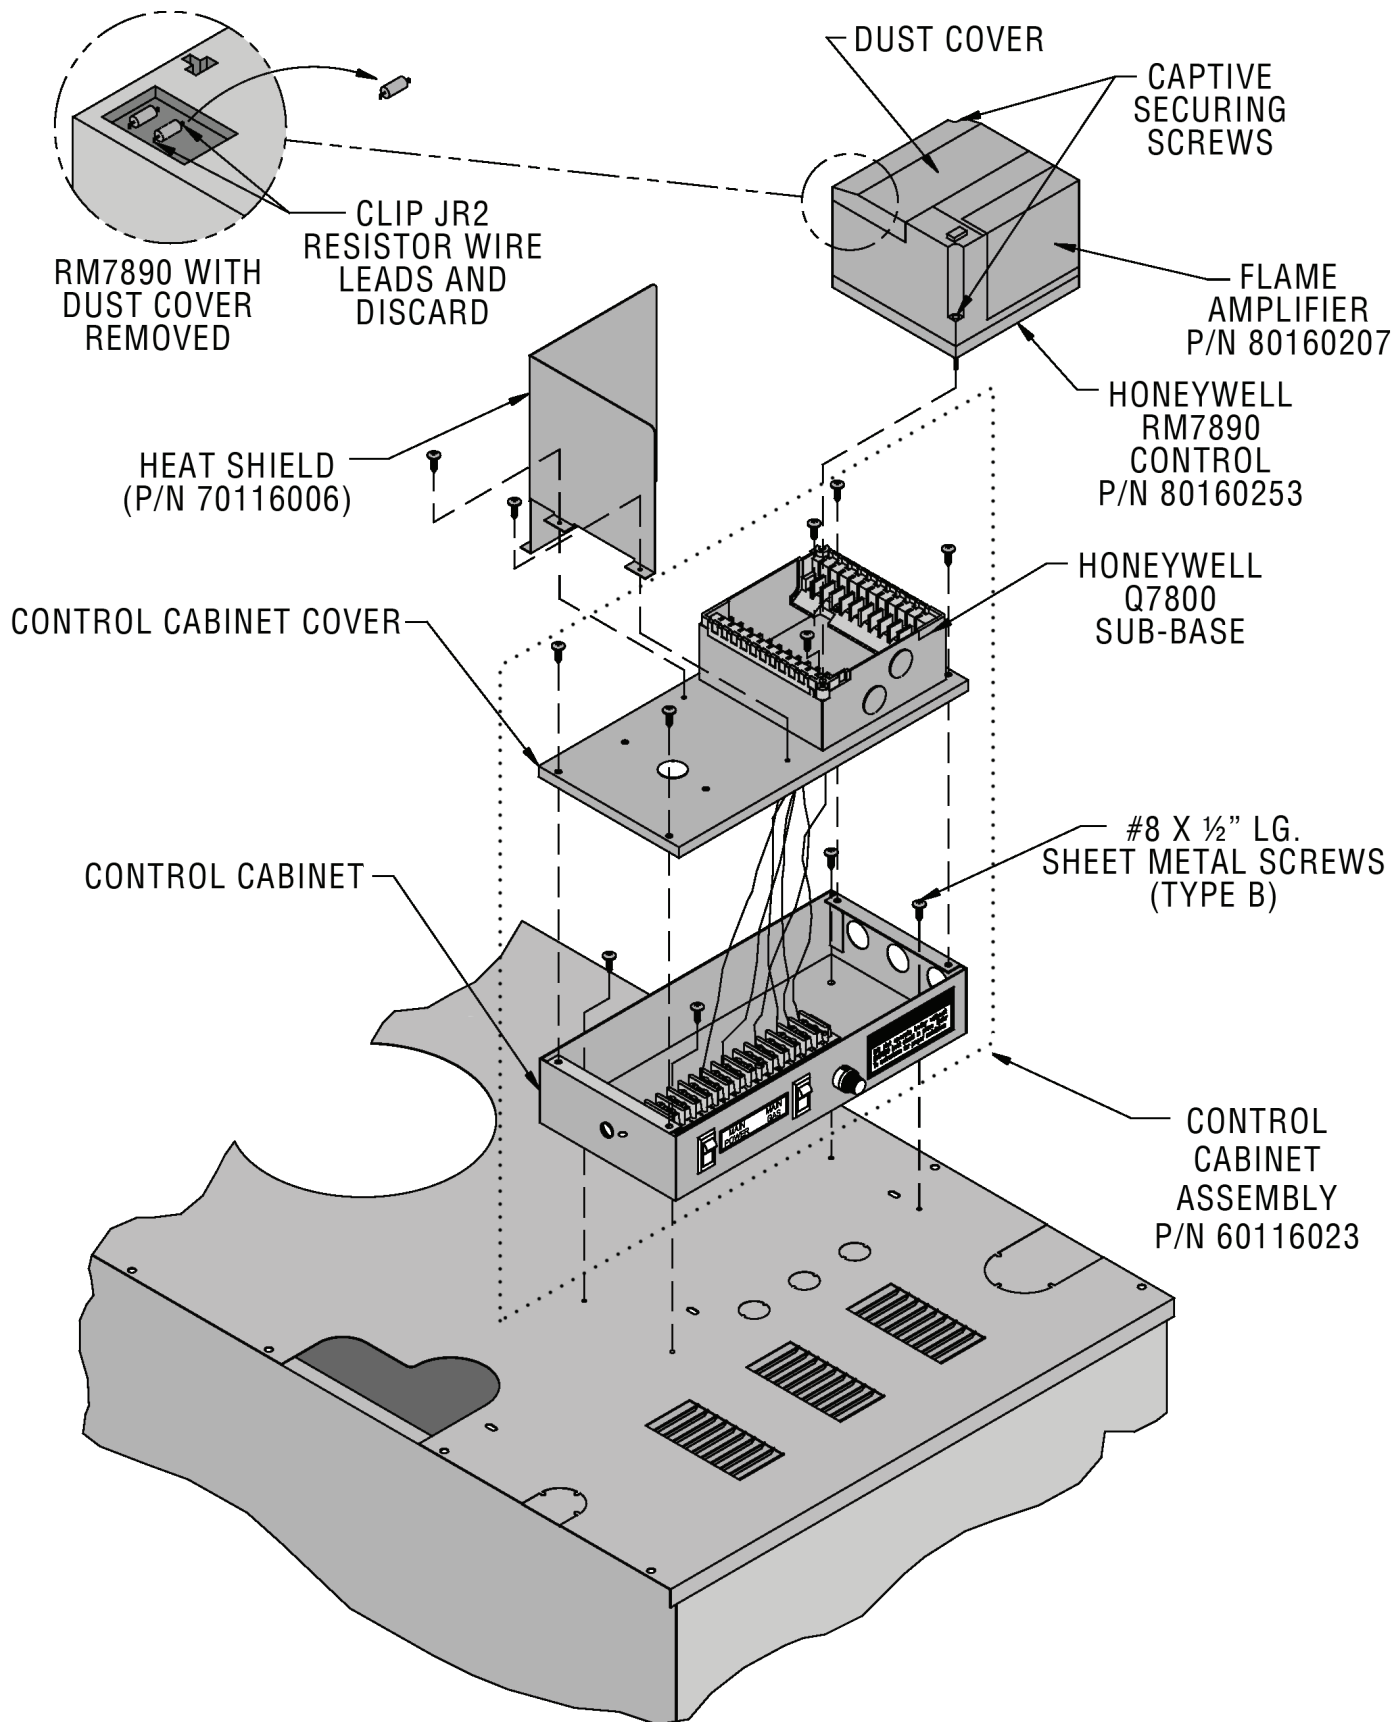

Figure 9: EP-CSD-1 Control Installation
U. EP-CSD-1 System: See Figure 9.